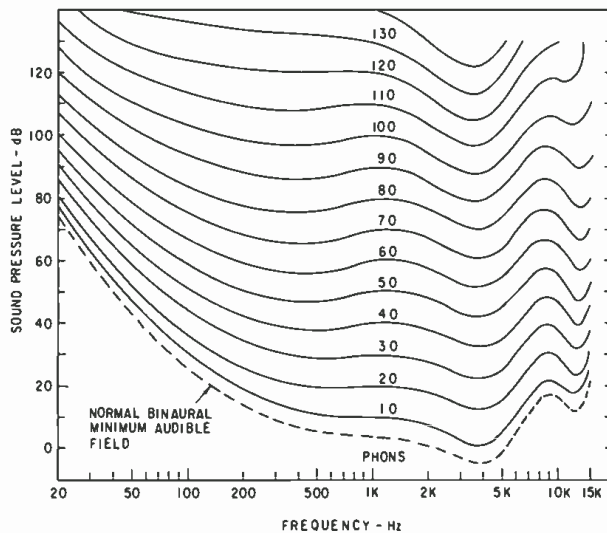
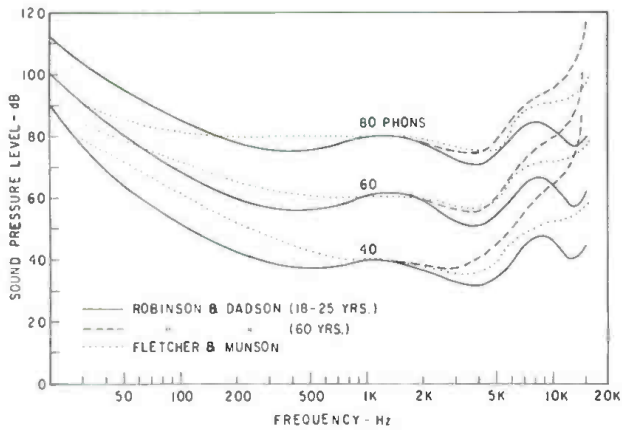

Figure 1. The Robinson-Dadson equal-loudness contours for pure tones. (after 150 Recommendation R226)
Figure 2. Equal-loudness contours showing the effects of age.
Figure 1. At (A) we find a listener in a control monitor room, while at (B) he is in an auditorium, or the studio. In the monitoring room, the paths of the direct sound and the reflection differ by a few feet so they arrive only a few milliseconds apart. In the auditorium/studio they are separated by more than ten times that period. From this fundamental difference grow the many distinctions between the sound in the two types of rooms.
Although Fletcher and Munson were the first to produce a set of equal-loudness contours, they were not the last. The most recent redetermination of the loudness relationship for pure tones was by Robinson and Dadson at the National Physical Laboratory in England.² These contours, shown in FIGURE 1, have been adopted by the International Standard Organization (ISO Recommendation R226).
Fletcher and Munson, in their earlier work, had originated a scale of loudness level or equivalent loudness using the unit *phon*. According to this method, the loudness level, in phons, of a sound is the sound pressure level of a 1000 Hz pure tone which is judged to be equally loud. The contours of FIGURE 1 are therefore identified in phons.
Probably the most obvious fact to be extracted from the curves of FIGURE 1 is that at the lower sound levels, both low- and high-frequency tones must be boosted in order to sound as loud as middle-frequency tones. Although the basic shape of the contours remains similar throughout, one can see a slight flattening of the contours at high sound levels, particularly at low frequencies.
The equal-loudness contours of FIGURE 1 were obtained with subjects in the age range 18-25 years. In FIGURE 2 three of these contours have been reproduced but with supplementary dashed curves at the high-frequency end describing results with listeners aged 60 years.
For general interest, the comparable Fletcher-Munson contours have been included in FIGURE 2 (dotted curves). At high frequencies the Fletcher-Munson contours fall generally within the range of age dependency. Below 1000 Hz the differences are large and inconsistent.